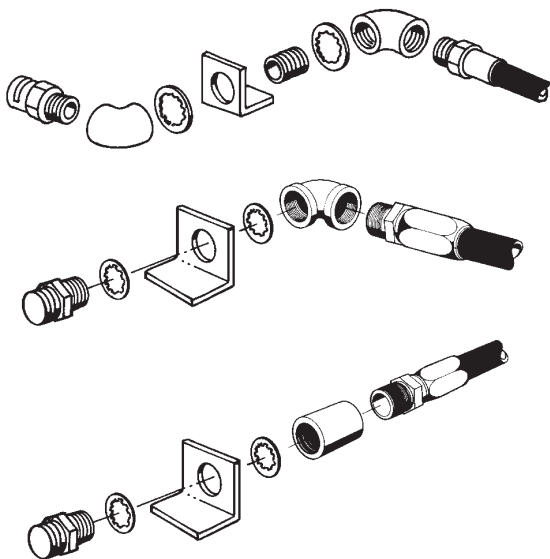

FIGURE 6
3. Install nozzle(s) in bracket by using two lockwashers, and either 1/2 in. elbow(s) or coupling. See Figure 6. **Aim the nozzle correctly and securely tighten.**